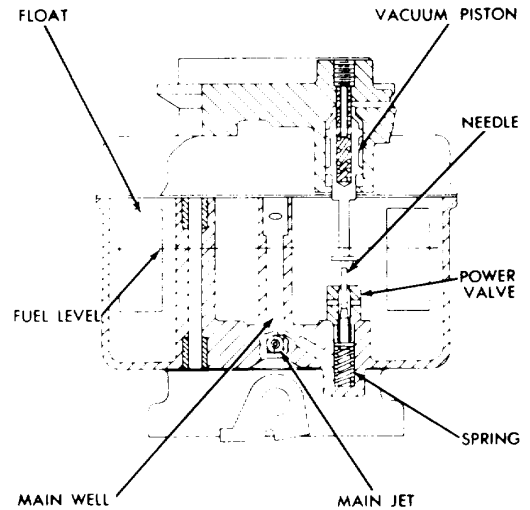

FIG. 7. Power Enrichment System
**POWER ENRICHMENT SYSTEM MODEL 1940 (FIG. 7)**
The power valve originally used in the model 1940 is a three-piece valve sold as an assembly. Later model 1940 carburetors used a one-piece, two-stage power valve (Figure 7).